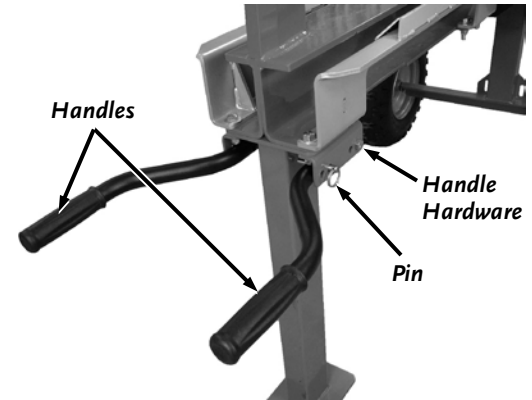

Figure 1
1. Remove the Handles by pulling the Handle Pins and removing the Bolts and Locknuts using two 9/16" Wrenches (**Figure 1**).